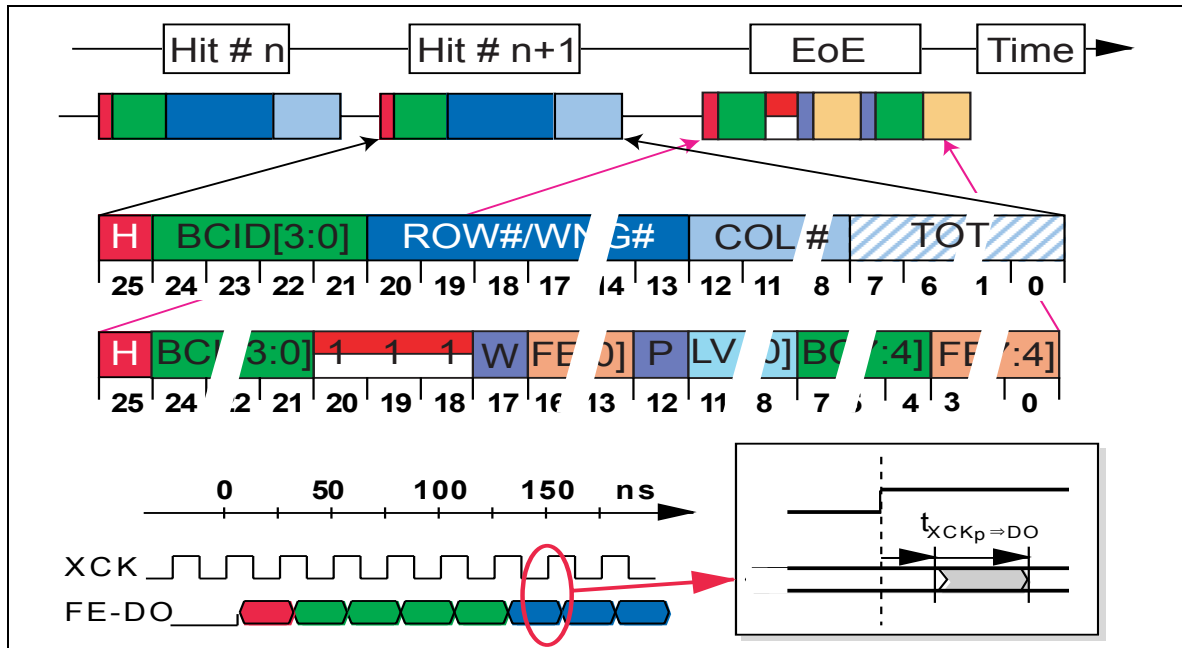

Figure 6-5 Data format and timing for event transmission from FE to MCC. (a) Hit frame is 26-bit long, (b) EoE frame is also 26-bit long.
- Fig. 6-5** *p. 6* Data format and timing for event transmission from FE to MCC. (a) Hit frame is 26-bit long, (b) EoE frame is also 26-bit long.
Table 6-1 summarizes the format for data hits and messages transmitted from *FE* chips to the *MCC*, while Figure 6-5 shows the transmission format in the time domain